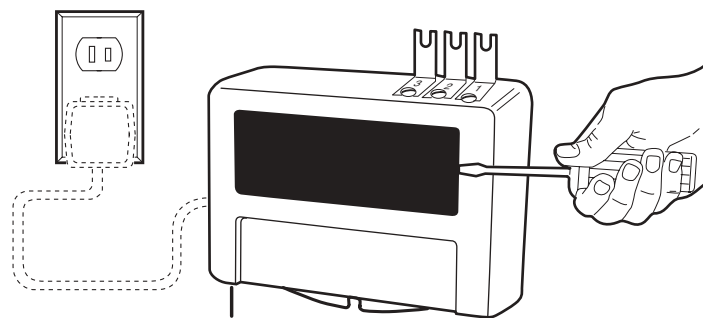

Figure 5
2. Press and release the “SMART” button on the receiver. The “SMART” indicator light will glow steadily for 30 seconds (*Figure 5*).